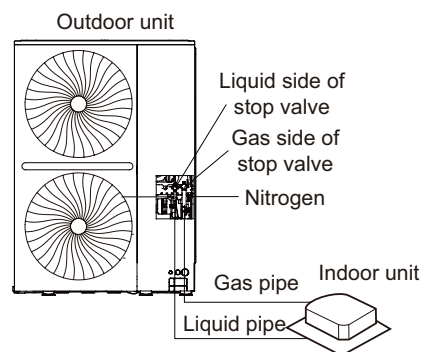

Fig.5.35
8. Flush the other openings in the same manner, working in sequence from indoor unit A towards the outdoor units. Refer to Fig.5.35